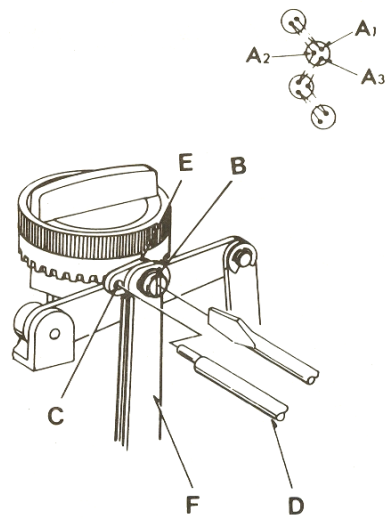

FIGURE 1A
2. ADJUSTMENT FOR FIGURE 1A
- Loosen screw (B) slightly.
- Insert eccentric tool (D) into hole (C) on lever (E). Adjust the position of lever (E) and (F) by turning the eccentric tool (D), until needle penetrates into the same hole (A1, A2, A3).
- Tighten screw (B) securely.